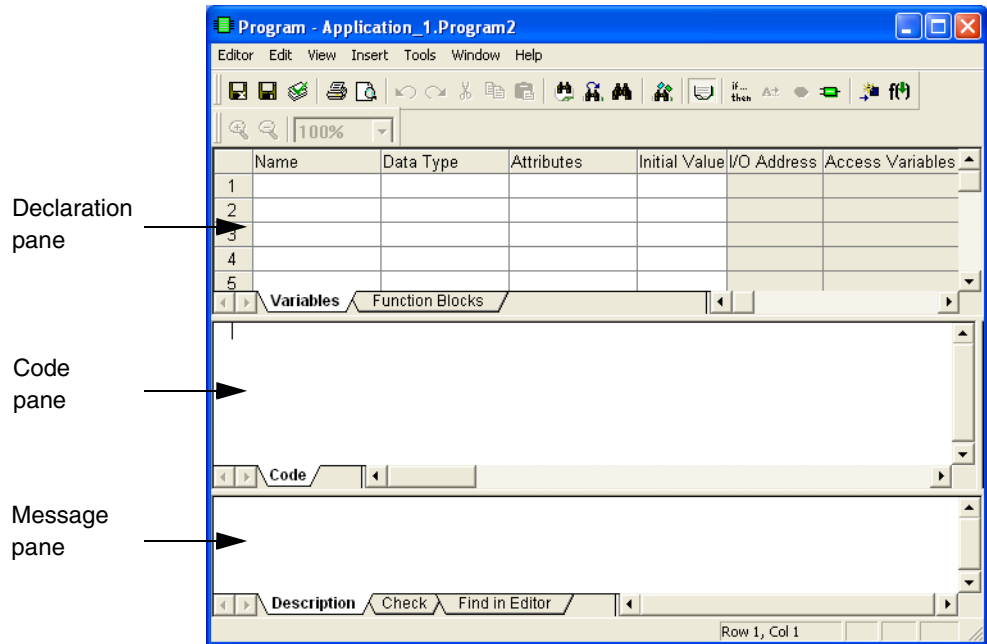

Figure 19. The editor for program **Program2**.
2. The program editor is divided into three panes: the declaration pane, the code pane, and the message pane. (See Figure 19.)